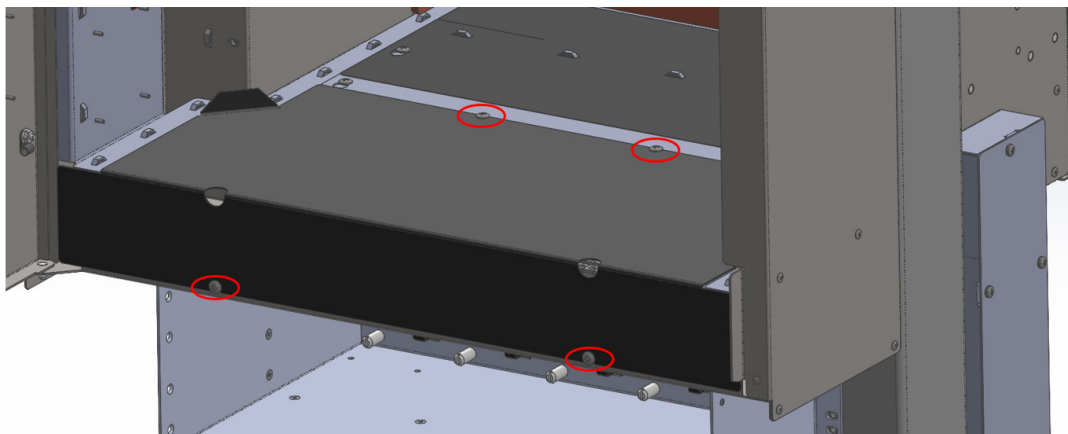
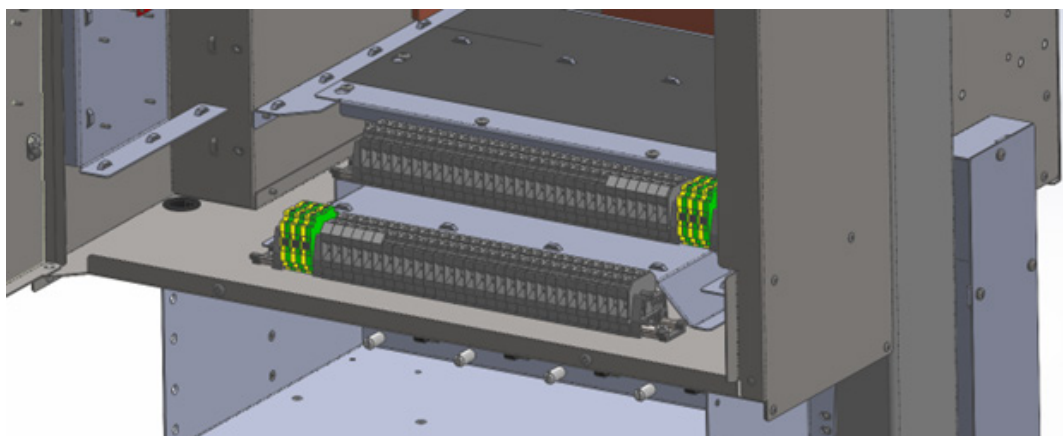

Figure 31: AC input terminal block top front cover
Figure 32: AC input terminal block with top front cover removed (your system may have fewer terminal blocks than is shown)
The CAN bus provides a communication path between the system controller and rectifier modules. In the power system, the CAN bus cabling is daisy chained from the Cordex® HP L-ADIO low voltage smart peripheral, to the top rectifier shelf. The cable is then daisy chained from the top rectifier shelf, to lower rectifier shelves, in sequence, see Figure 32. At the last rectifier shelf, termination is enabled, see Figure 31.
2. Flip the DIP switches from Termination Enabled to Termination Disabled; see Figure 31.
4. Connect the CAN bus cable to the CAN OUT connector of the top rectifier shelf of the expansion power system; see Figure 32.